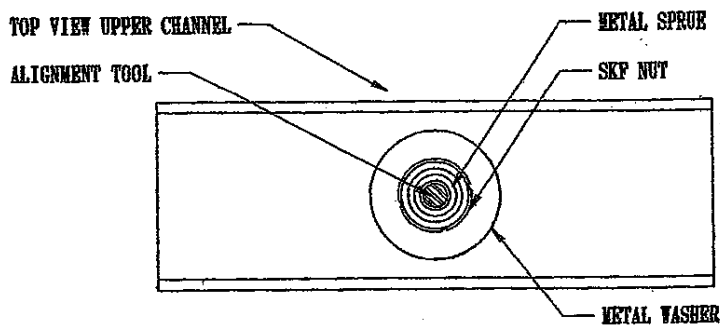

FIG 2
- The following step is best performed with two people: One to view the alignment tool looking directly down from the top of the **TEKCASTER**. The other person will move around the air cylinder. Viewing the aligning tool from the top of the **TEKCASTER** tap the air cylinder top flange until the alignment tool is perfectly centered in the sprue section. Do not use a steel headed hammer, damage to the air cylinder may result. Refer to fig 2.